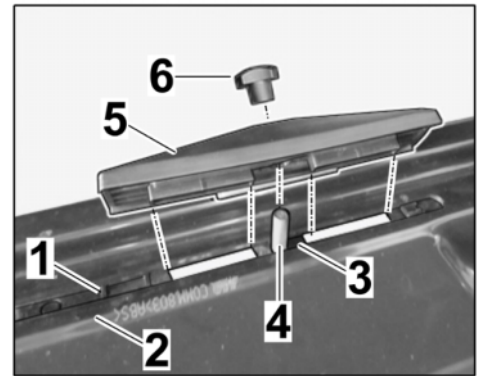

Figure 3
1.2.4 Loosely fit M8 butterfly nut (⇒ *Figure 3*).